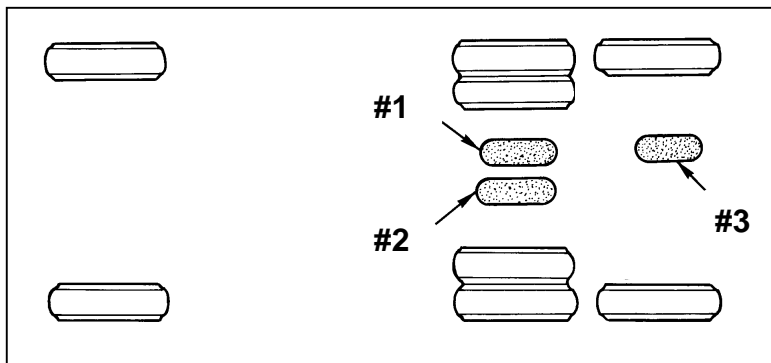

Figure 7: Air tank location
- 4) Locate the affected air tanks (see 1, 2 and 3, Figure 7, Figure 8 and Figure 9).